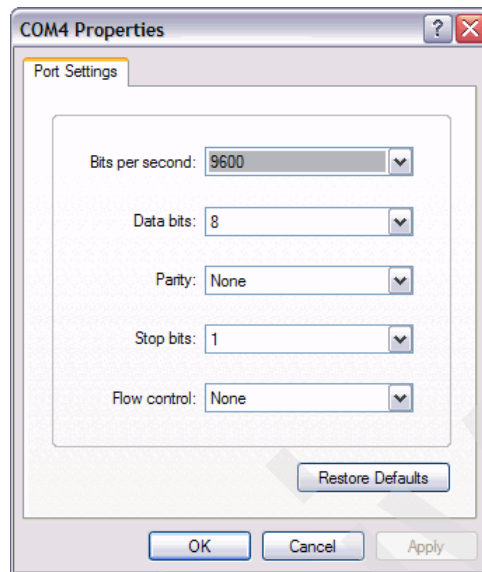

Figure 6-70 Hyperterm connection settings
- The settings for this connection are the same as all the other b-type family of switches: **9600**, **8**, **None**, **1**, **None**, as shown in Figure 6-70.